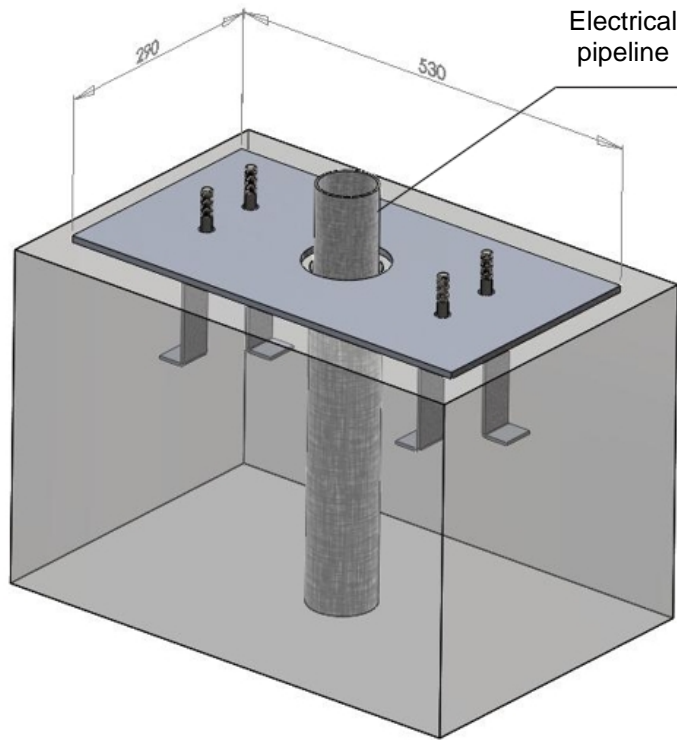

Fig.4
- Follow the dimensions, create a solid concrete footing and fix the base plate to the ground immersing it into the concrete using the bracket clamps and fixing screws (fig.4). If the base already exists use robust expanding wedges.